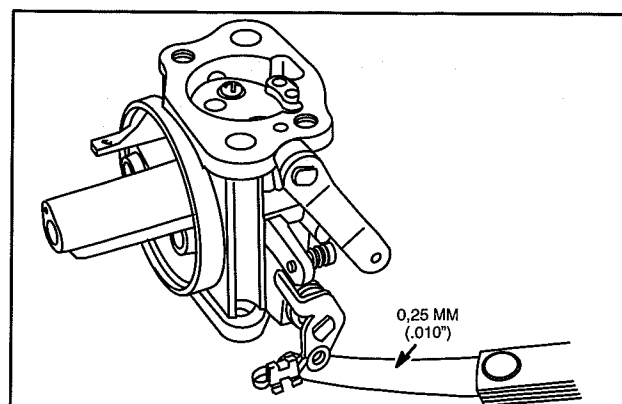

Fig. 33 – Check Clearance
1. Lay carburetor on flat surface and check throttle and choke shaft clearance as shown in Fig. 33. Throttle shaft and choke shaft clearance must not exceed .25 mm (.010").